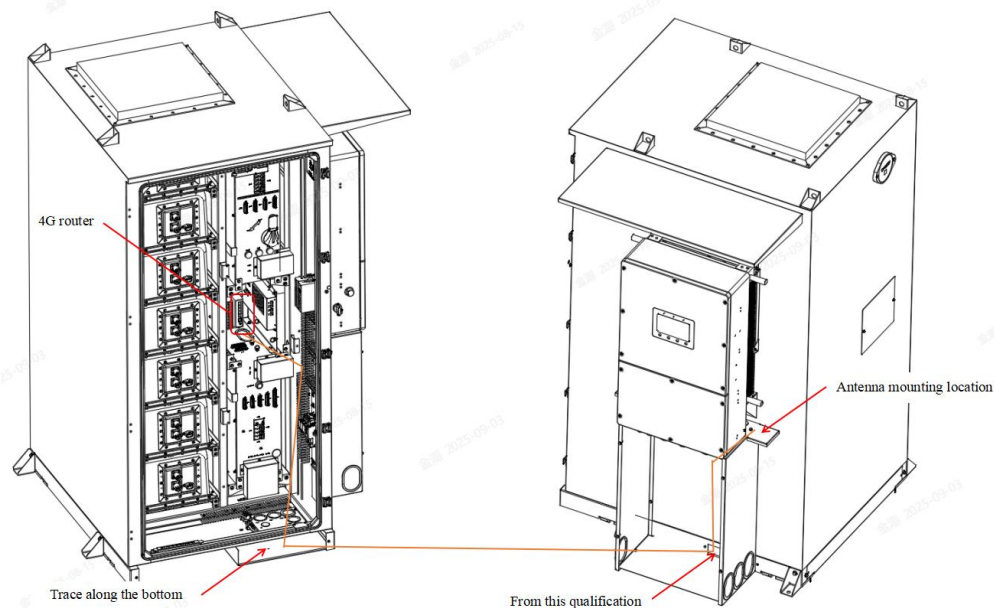

Figure 5-30 Antenna Installation position
- As shown in Figure 5-30, use the socket tool to remove the M5 flange nut, and then open the air duct.